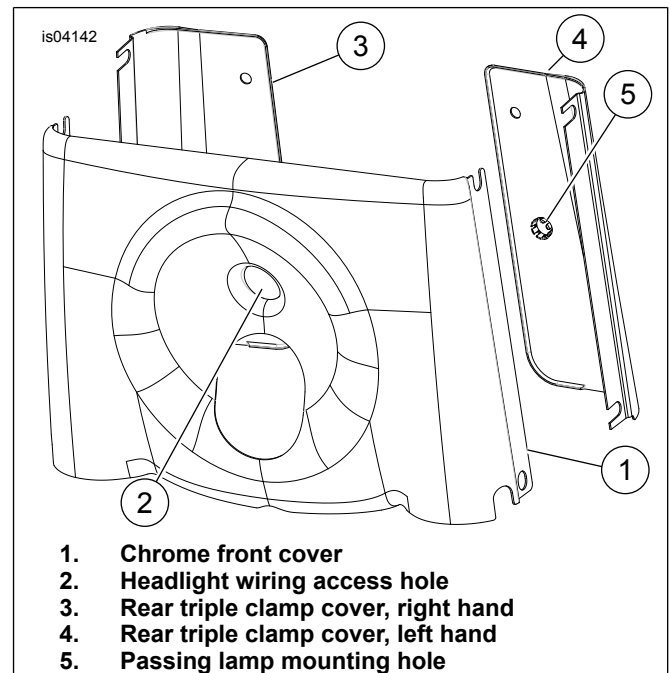

Figure 2. Smooth Chrome Fork Cover
6. See Figure 2. From kit, place front panel (1) into position.
8. Insert headlight wiring through hole (2) in front panel and connect wiring to main electrical harness.